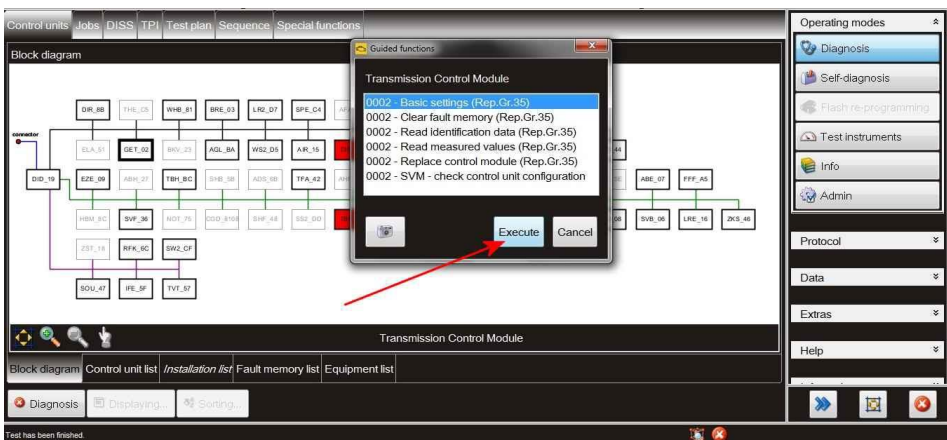

Figure 14
- Referring to Figure 14 - Select Basic settings